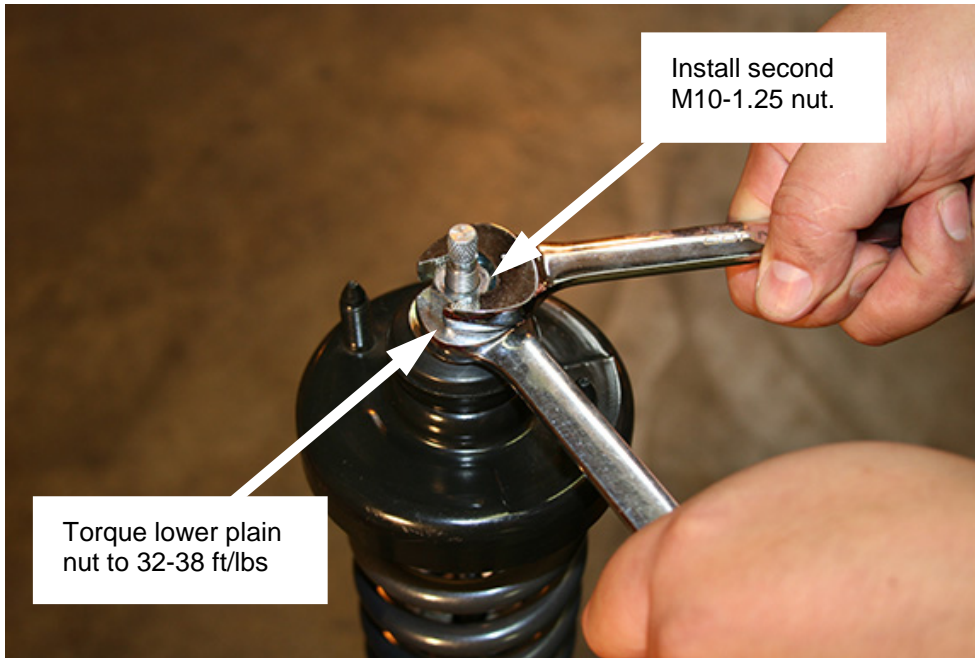

Figure 9
23. Torque all four of the top strut nuts to 32-38 ft/lbs. Install the second M10-1.25 plain nuts and lock them firmly against the first top nuts using two wrenches as shown in Figure 9.